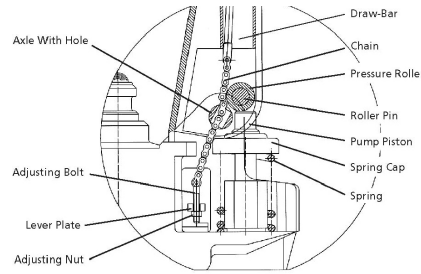

Figure 3
3. Set control handle in "LOWER" position then pass the adjusting nut adjusting bolt and chain through the hole of the axle (See Figure 3). Carefully read all manuals included with this product before putting into service. Never exceed the maximum capacity of the truck.